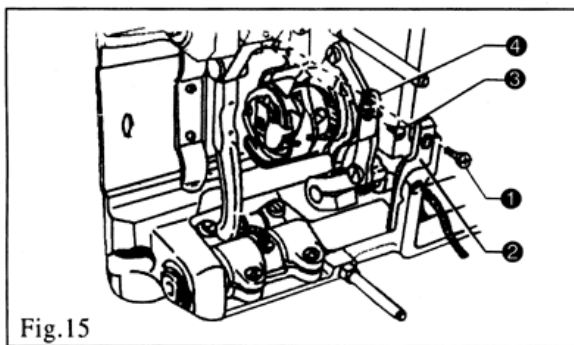
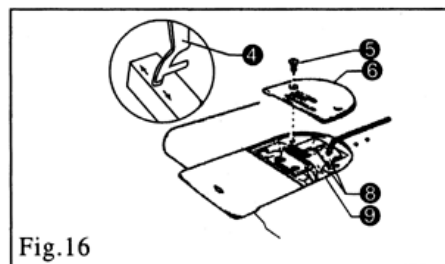

Fig.15
Fig.16
## 13.1 REPLACE THE COUNTER KNIFE AND MOVING KNIFE(FIG15,FIG16,FIG17.1)
- 2).Take down the screw ① and positioning finger ②
- 3).take down the screw ③ and counter knife ④ (Fig.16)